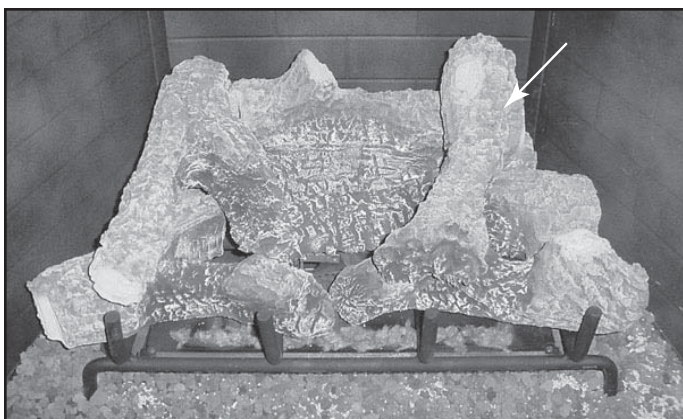

Figure 14.4 Placing Right Top Log
- Install right top log as shown in Figure 14.4 using locating pins to position log properly.